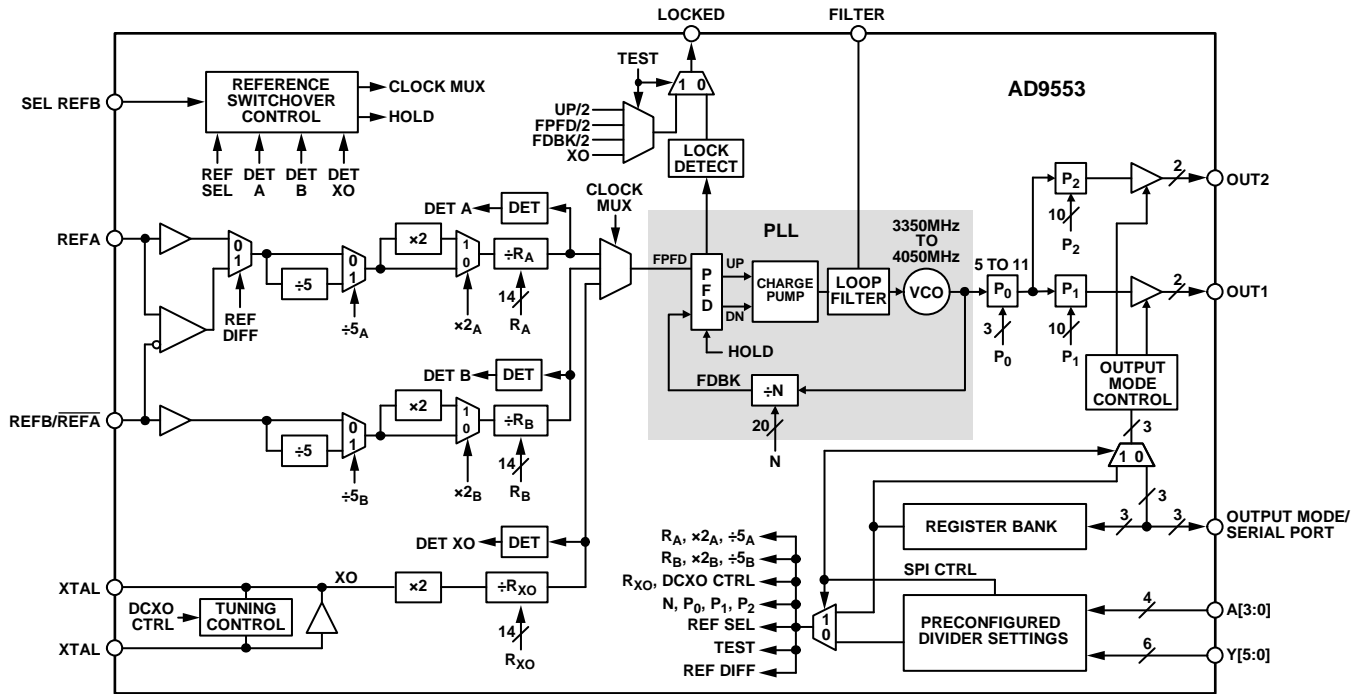

Figure 27. Detailed Block Diagram
Generally, the clock signals that appear at the input to the clock multiplexer (see Figure 27) all operate at the same frequency. Thus, the frequency at the input to the PLL (FPFD in Figure 27) is the same regardless of the signal selected by the clock multiplexer. The PLL converts FPFD to a frequency within the operating range of the VCO (3.35 GHz to 4.05 GHz) based on the value of the feedback divider (N). The VCO prescaler (P_0) reduces the VCO output frequency by an integer factor of 5 to 11, resulting in an intermediate frequency in the range of 305 MHz to 810 MHz.
The frequency selection pins (A3 to A0 and Y5 to Y0) allow the user to hardwire the device for preset input and output frequencies based on the pin logic states (see Figure 27). The pins decode ground or open connections as Logic 0 or Logic 1, respectively.